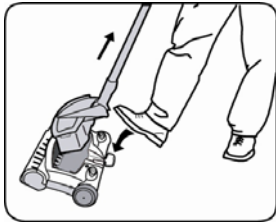

Fig. 10
1. Press the dust cup release pedal with your foot. (Fig. 10)